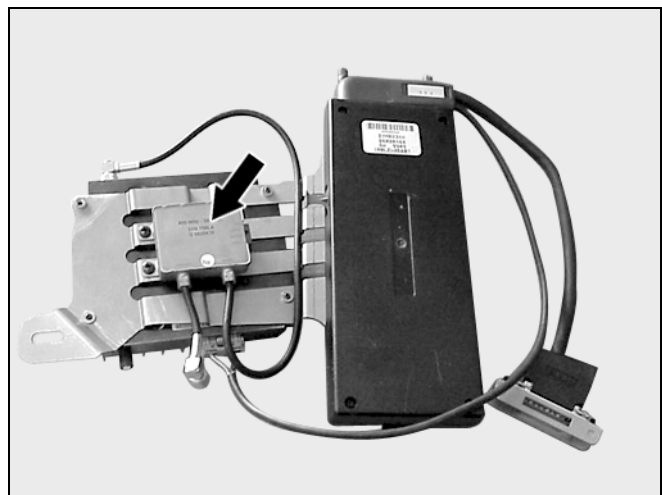

Figure 2
6. Mount the antenna switch to the back of the installation bracket with two M4 x 6 screws (Figure 2).